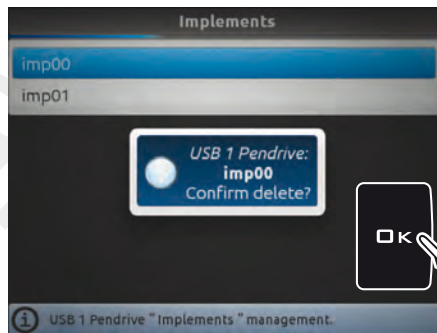

Fig. 299
- The message in Fig. 299 is displayed: confirm deletion by pressing **OK** again.